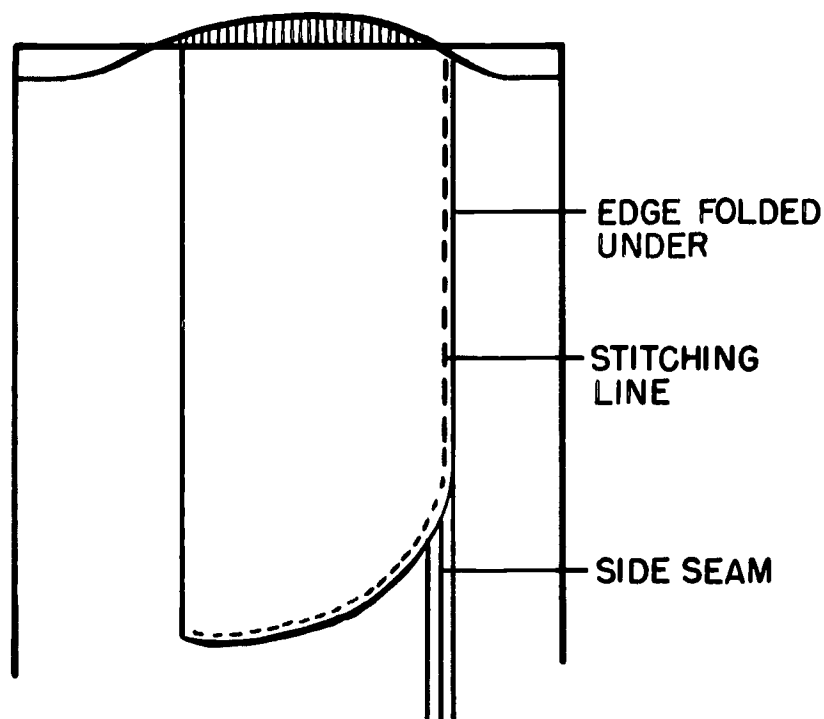

Figure 85.
9. On wrong side of trousers, fold under lengthwise edge of top pocket side. Stitch the edge of pocket to side seam allowance. Stitch bottom of pocket 1/4 inch from edge making a French seam (see Figure 85).